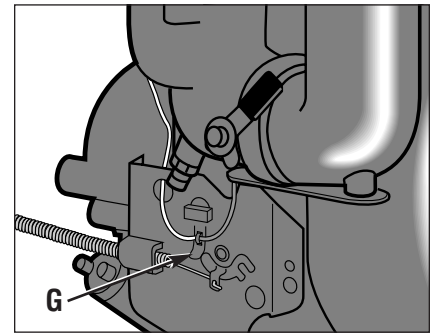
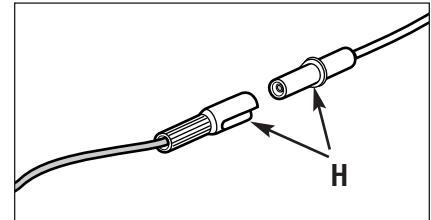

Fig. 7
Fig. 8
- a. A green engine shutoff wire leads from the ignition switch, across the back of the engine, and over to the bottom, right side of the engine. If the wire is attached to a clip (G, Fig. 7), depress the clip and remove the wire. If the wire connects to another wire by means of plastic terminals (H, Fig. 8), pull the terminals apart.
- a.) Depending on your engine model, either reattach the green engine shutoff wire to the clip (G, Fig. 7) on the control bracket, or reconnect the plastic terminals (H, Fig. 8). On engines so equipped, secure the green wire with the plastic tie(s) removed earlier.